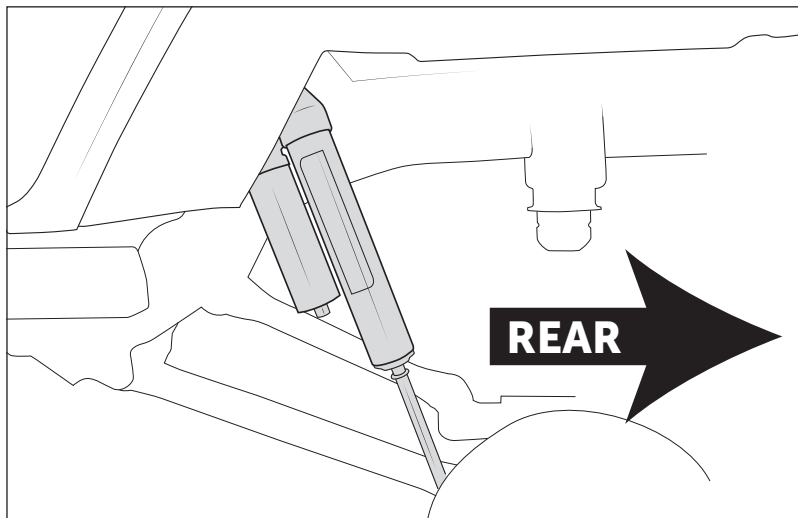

Figure 14
1. Install shock using factory hardware at both ends. Reservoir should point toward front of vehicle when installed (fig. 14).